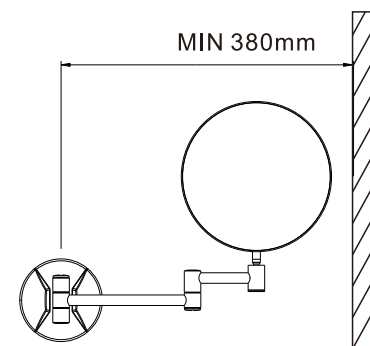
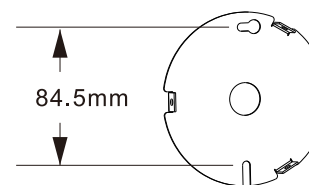

Fig.1
Fig.2
- 1.2 After selecting the location of the Make up mirror, check whether the wall is solid, Make sure there is enough space in the installation location (Fig. 1). measure the distance of the holes (84.5mm) in the wall bracket with a tape measure and mark it on the wall with a pencil (Fig. 2).